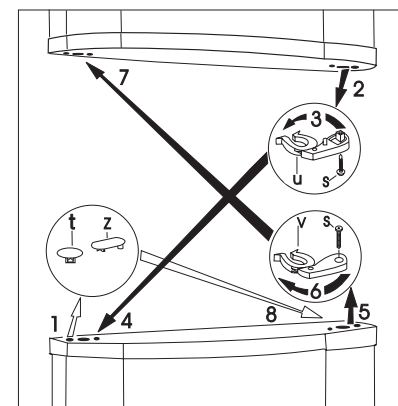

fig. 3.
- Remove the (t, z) plugs from both doors. (fig. 3)